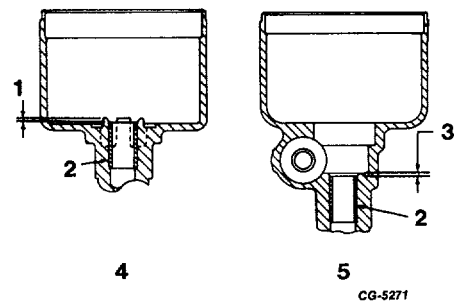

Fig. 30 Upper Bushing Location Dimensions
- Press upper bushing into housing to dimension shown in Figure 30: